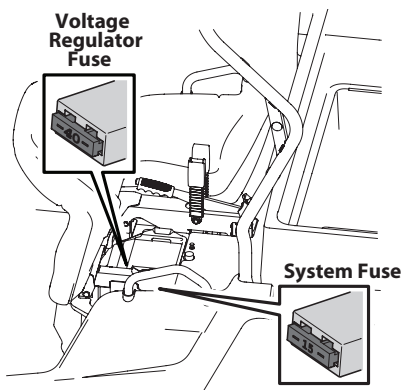

Figure 4-9
5. Remove the appropriate electrical fuse and replace if needed with proper rated amp fuse. See Figure 4-9.